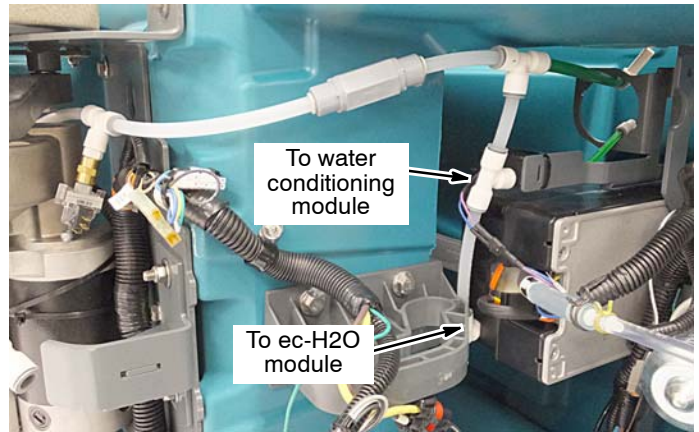

Fig. 33
- Connect the hose assembly to the water conditioning module and ec-H2O module as shown (Figure 33).